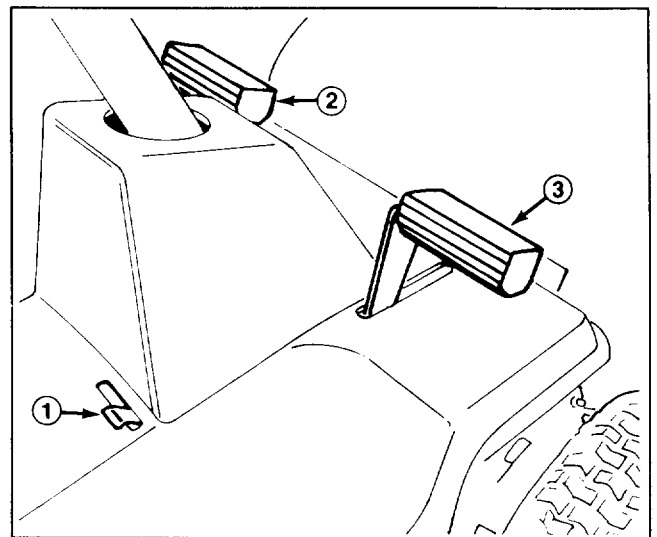

Figure 6
**Clutch Pedal** (Fig. 6) – Foot-operated clutch pedal is used in conjunction with gear shift. Depress clutch pedal fully when shifting gears. Depress clutch pedal whenever brake is used.
**Brake Pedal** (Fig. 6) – Foot-operated brake pedal must be depressed to slow down or stop the rider. When pedal is depressed, a caliper engages the brake disc on the side of the transmission. Always depress clutch pedal when using brake.
**Parking Brake** (Fig. 6) – Parking brake must be used in conjunction with brake pedal. When pedal is depressed and end of parking brake lever holds brake pedal in depressed position, a caliper engages the brake disc at side of transmission.
**Ignition Switch** (Fig. 6) – Switch has three positions: ON, OFF and START.
1. Engage the parking brake (Fig. 6): refer to using Parking Brake, page 14.
2. Move parking brake control to the left and release brake pedal until it contacts end of parking brake lever (Fig. 6).
3. To release the parking brake, depress brake pedal (Fig. 6), which will allow parking brake lever to return to its disengaged position. Then release brake pedal.